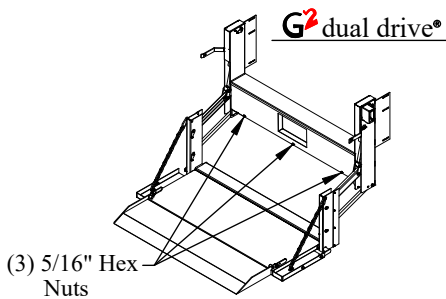

Figure 8: Box cover locations.
1. **Remove** the box cover by removing the 5/16" hex nuts (Figure 8).